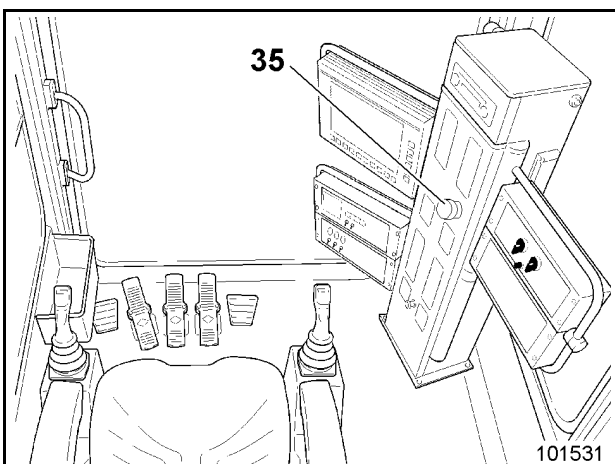

Fig. 2-32:
- by pressing the switch (red) on the front panel of the control column (35, Fig. 2-32:),